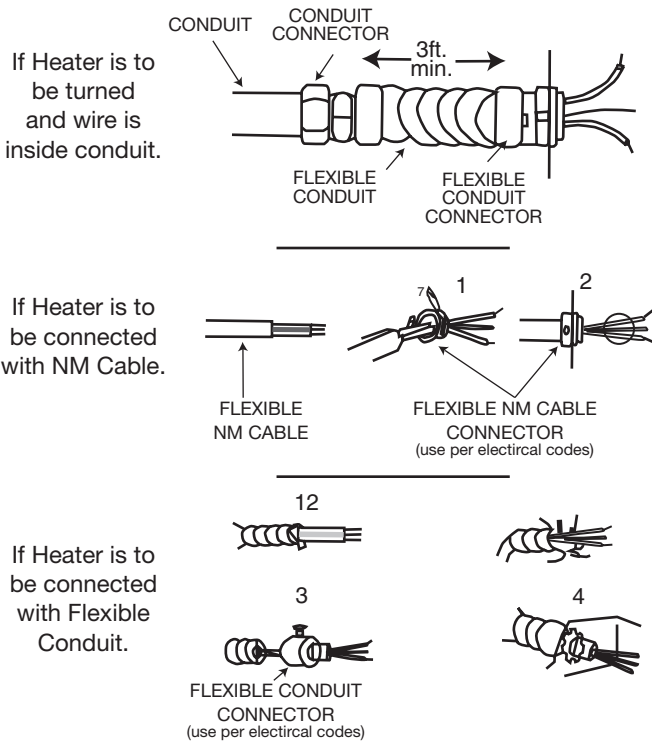

Figure 6
2. Attach flexible cable through a knock-out in the side of the heater following NEC and local codes, See **Figure 6** and **SPECIFICATIONS** for recommended wiring and circuit breakers.
(See **Figure 6**). Check local electrical codes. If you run the wiring in conduit and wish to be able to turn the heater be sure to purchase enough flexible conduit to allow the heater to be turned.